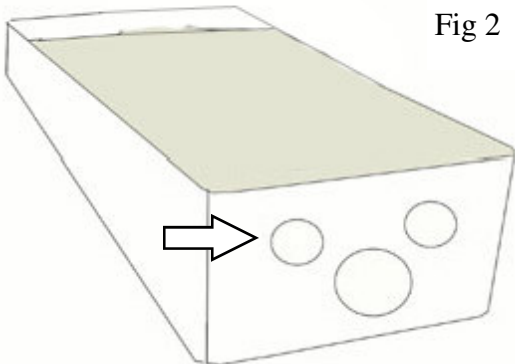

Fig 2
2. Insert the wires from the **supplied AC transformer** into terminal J2 of the Master board which is to the left of the battery terminal and fuse (fig 2).
4. There are three separate knockouts on the bottom of the control box. Find a water-tight connector at your local hardware store that will fit one of the knockout as well as fit all of your wires through it. Remove the necessary knockout in the bottom of the box and affix a watertight connection (fig 2).